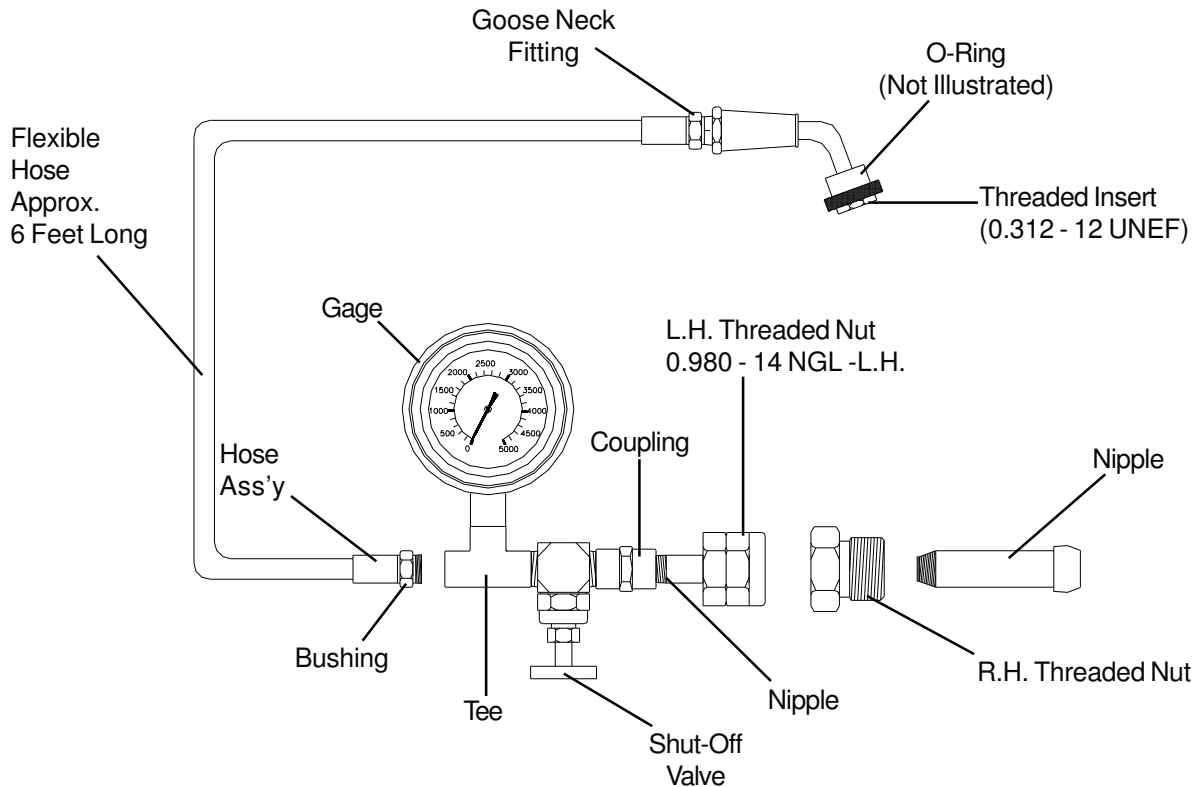

Figure 3 – GG-300445 Charging and Gaging Assembly
- Before attaching the goose-neck fitting of the CGA-300445 charging assembly to the gas valve assembly, be sure that the shutoff valve is in the closed position (See Figure 3). Valve is closed when the handle is turned clockwise.
3. Before attaching the goose-neck fitting of the CGA-300445 charging assembly to the gas valve assembly, be sure that the shutoff valve is in the closed position (See Figure 3). Valve is closed when the handle is turned clockwise.
3. Before attaching the goose-neck fitting of the CGA-300445 charging assembly to the gas valve assembly, be sure that the shutoff valve is in the closed position (See Figure 3). Valve is closed when the handle is turned clock-wise.
NOTE: Left hand threaded nut fits male connections usually found on bottles per Compressed Gas Association #550 or #1550. For female connections on inert gas bottles per Compressed Gas Association #580, use nipple fitting and hex nut with teflon tape (Reference Figure 3).